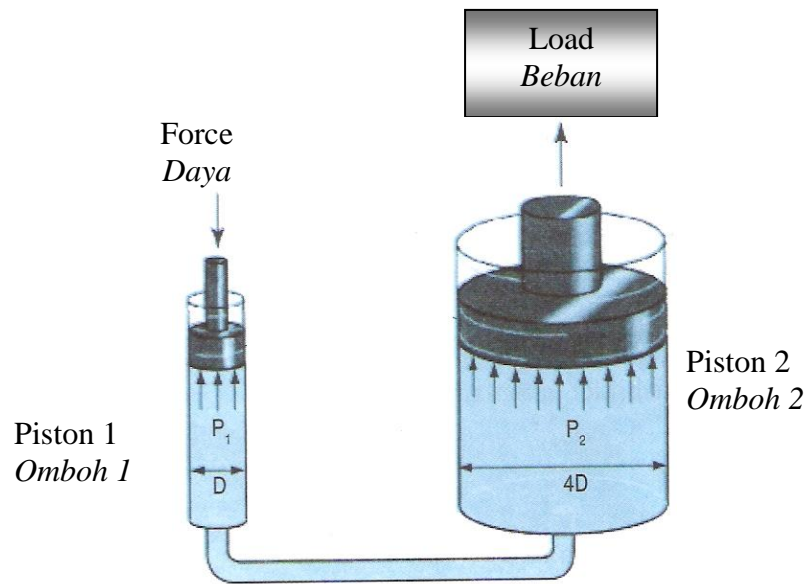

Figure 8
17. Figure 8 shows a part of the hydraulic system. The force for piston 1 is 20 N. Given the diameter of piston 2 is four times the diameter of piston 1